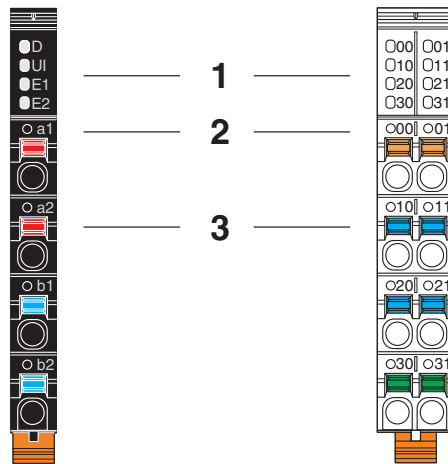

Figure 4-22 Marking of the terminal points and the LEDs on the connectors
- Indication elements**            Diagnostics and status indicators are marked with the function, e.g., D, E, UI, 00, 01, ... (1 in Figure 4-22).
- Terminal points**                    The terminal points are consecutively numbered, e.g., a1, b1, 00, 01, ... (2 in Figure 4-22).
The associated colored spring lever indicates the function (signal, potential) (3 in Figure 4-22).